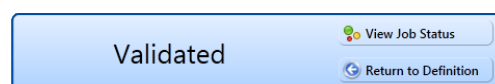

Figure 10-40. Validated Message
- 23 To validate the definition, click the  **Prevalidate** button. When the validation process completes and the following message displays, click  **View Job Status** or  **Return to Definition** (Figure 10-40).